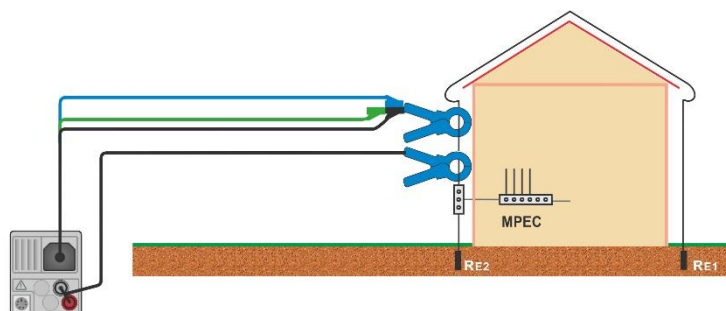

Figure 7.63: Contactless earthing resistance measurement
- › Clamp on object under test, see **Figure 7.63**.